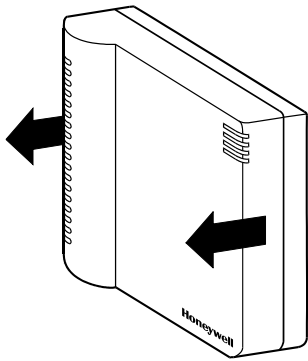

Fig. 6. Terminal cover removal
1. Simply pull away the cover from the sub-base as shown in Fig. 6.